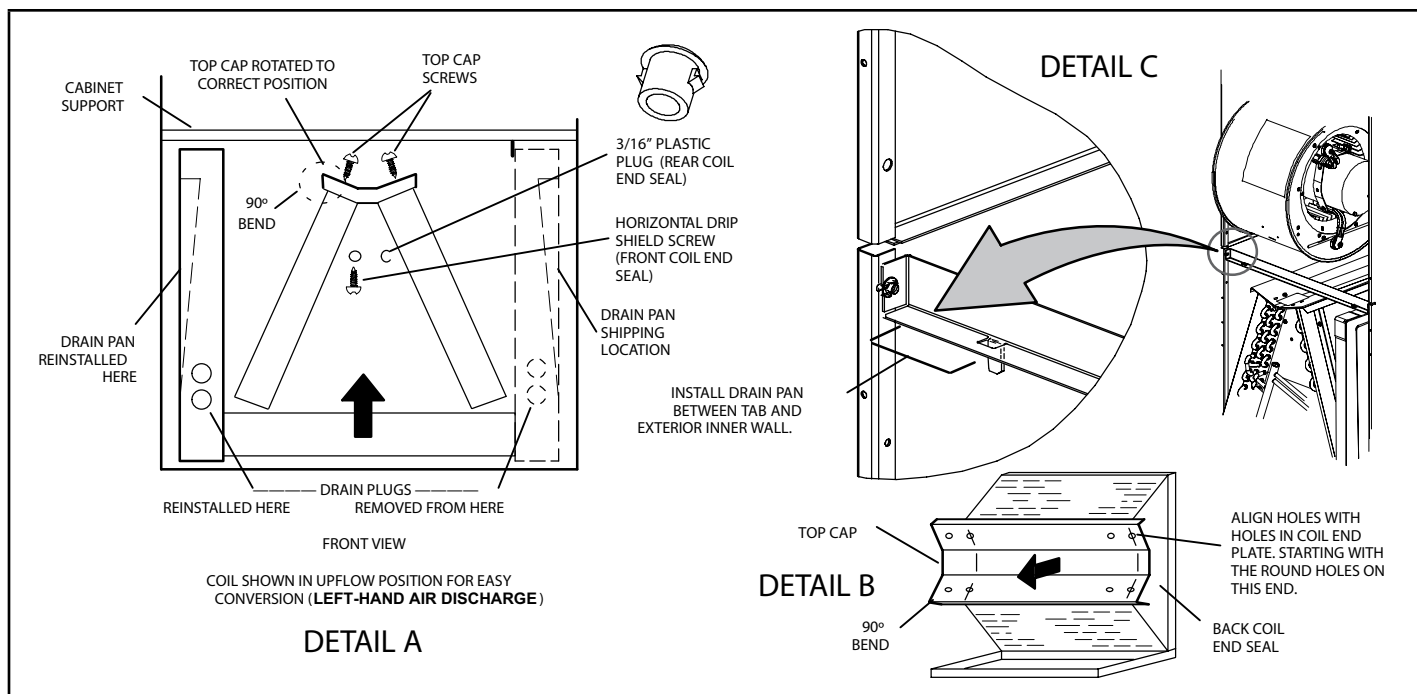

FIGURE 11. Field Modification for Left-Hand Discharge
4. Remove screws from top cap. Remove horizontal drip shield screw located in the center of the back coil end seal as illustrated in figure 11.
- 7 - From the upflow position, flip cabinet 90° to the left and set into place. Replace blower assembly. Secure coil in place by bending down the tab on the cabinet support rail as illustrated in figure 11.